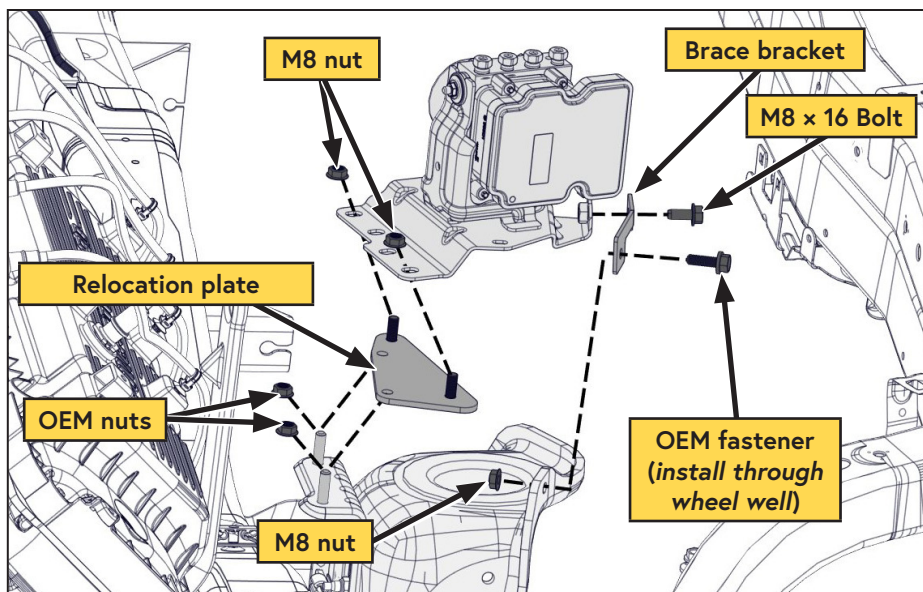

Figure 12 — Relocating the HCU
- Install the VMAC HCU relocation plate on the shock tower mount and the HCU brace bracket onto the HCU module (Figure 12).
- Gently shift the HCU module toward the firewall, rotating it a few degrees clockwise, and secure it to the VMAC relocation plate and HCU brace bracket (Figure 12).